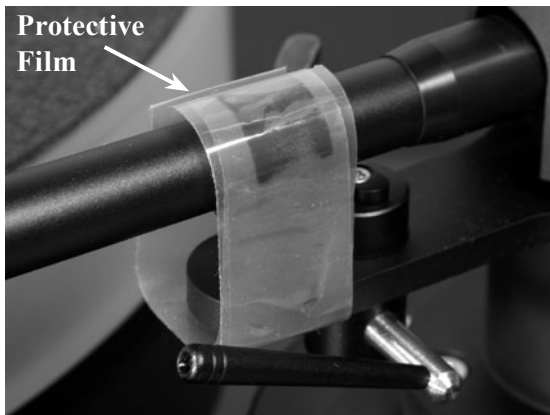

Figure 19
- Remove the protective film material from the Tone Arm Rest Position. Refer to figures 19 and 20.